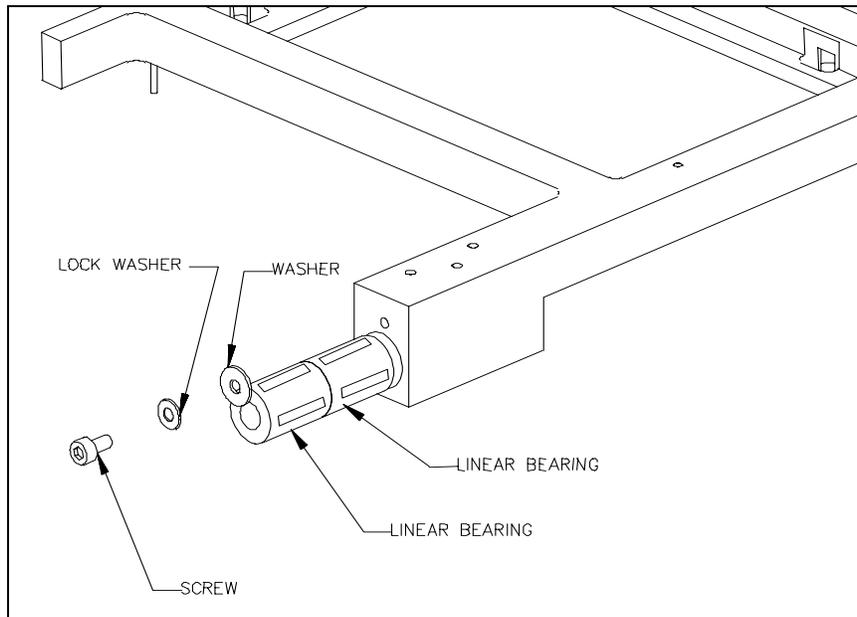

Figure 9-27 Replacing Plate Carrier Bearings
- 1 Remove the M3 x 6mm socket head cap screw, M3 lock washer, and M3 fender washer (Figure 9-27).